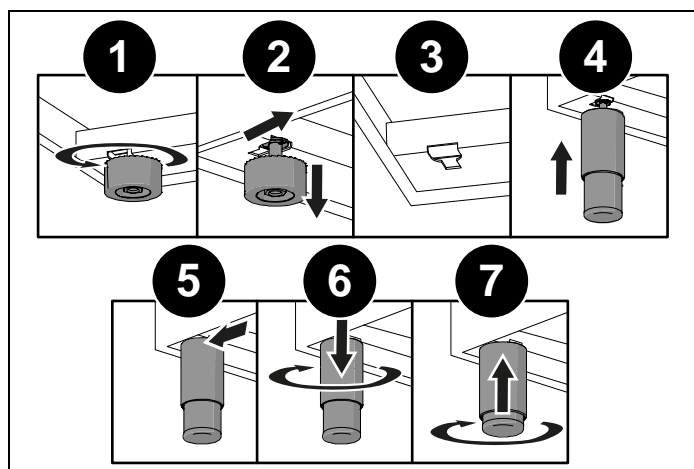

Fig. 8
- remove the supports (1 and 2, Fig. 8),
- fit the feet into the keyhole in the underside of the appliance (3 and 4, Fig. 8),
- screw the feet down until they are securely fixed to the base (5 and 6, Fig. 8),
Adjust the feet to the correct height (7, Fig. 8).
When lowering the appliance, do not maintain the pressure on the feet (Fig. 8). Use a shim underneath the base or a pallet to avoid tilting the cooker.